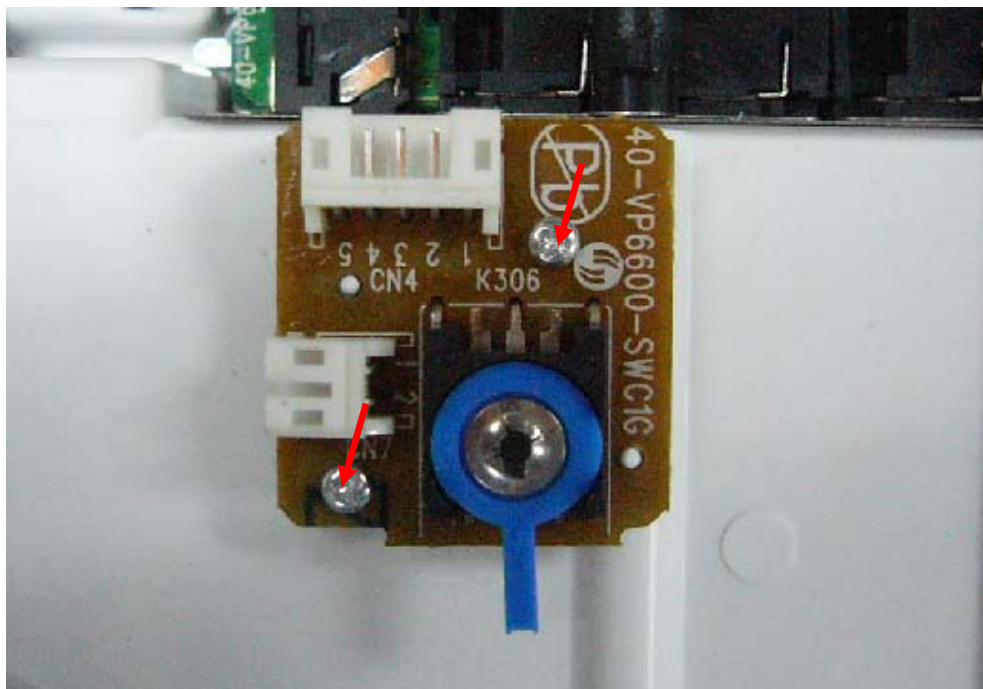

Figure 13
Step8: Dismantling CD Door Open/Close Board. Remove the 2 screws around the board. (Figure 13)